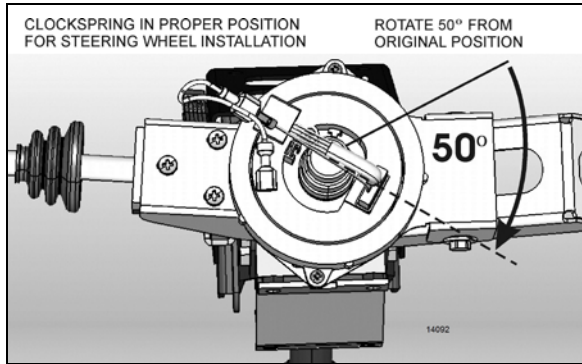

FIGURE 15: PROPER CLOCKSRRING POSITION
5. Break the paper seal and rotate the center part of the clockspring about 50° clockwise (Figure 15). This step is necessary for the installation of the steering wheel.